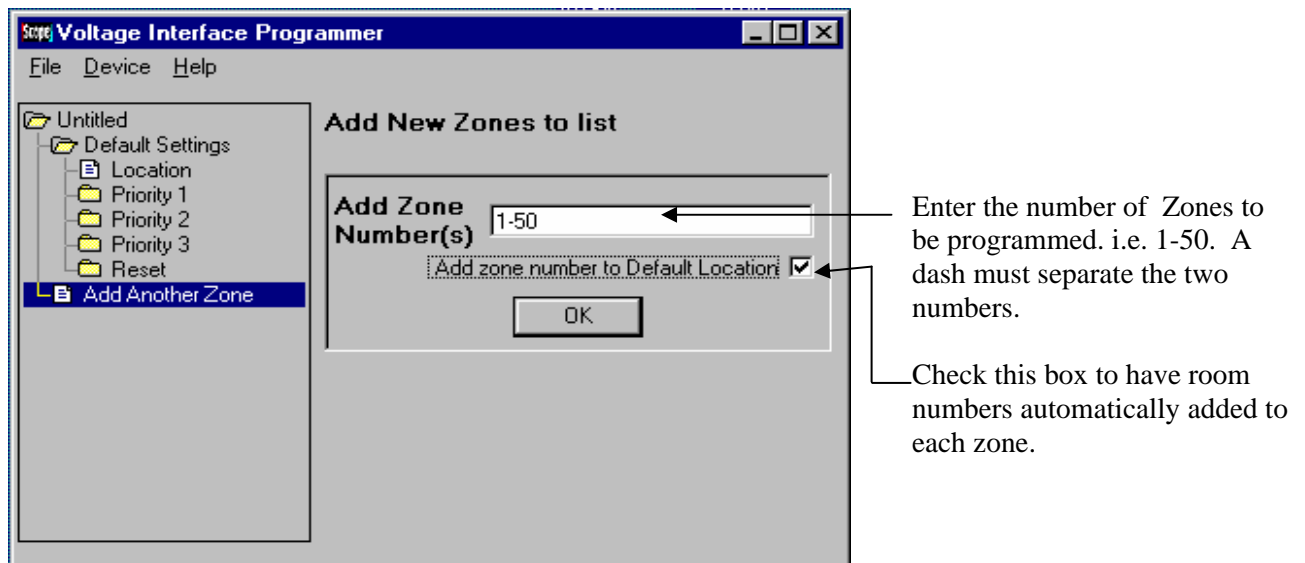

Figure 5
- d. Enter the number of Zone(s) {contacts} you will be activating. (see figure 5)